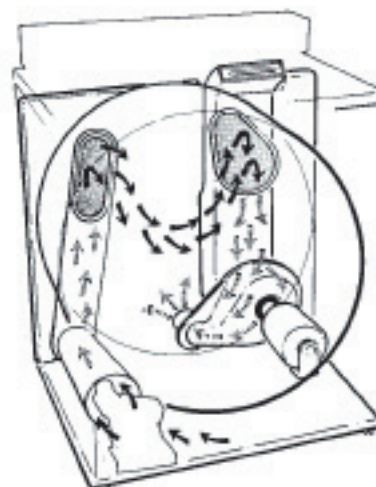

Fig. 7-3
1. The blower wheel draws dry air across the electric heating element or the gas burner. (Fig. 7-3)
4. Figure 7-3 shows the air path. The air system is similar in gas and electric dryers. A gas dryer is shown.